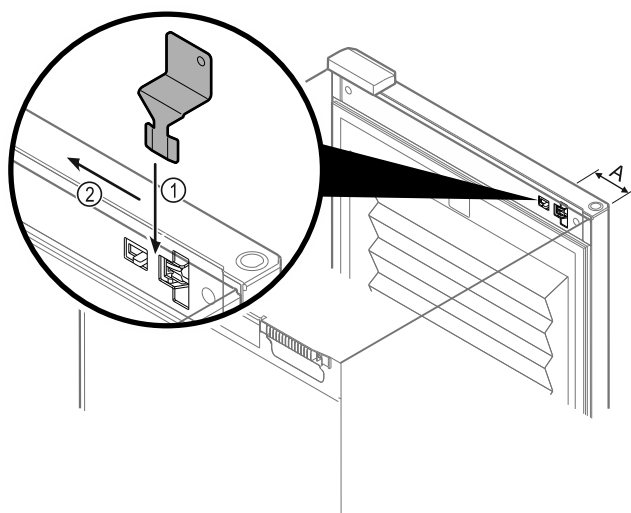

Fig. 217
- Insert the emergency release key in the specified position Fig. 217 (A) $\approx$ 100 mm.
- Insert the emergency release key Fig. 217 (1) between the door and the body of the appliance from above to the end stop.
- Pull the emergency release key towards the hinge. Fig. 217 (2)